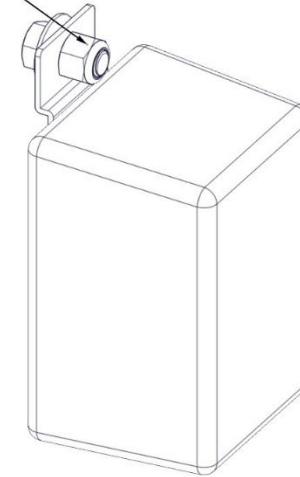

FIGURE 7.10
- REMOVE THE NUT, BOLT, AND WASHER FROM THE ASC AS THEY WILL NOT BE NEEDED (FIGURE 7.10).